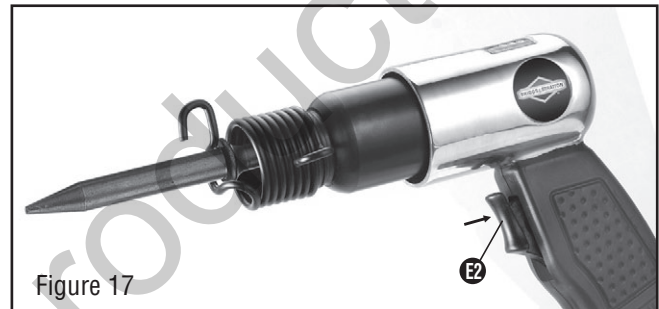

Figure 17
2. Press the trigger (E2) slowly with the chisel in light contact with the workpiece. (See Figure 17)